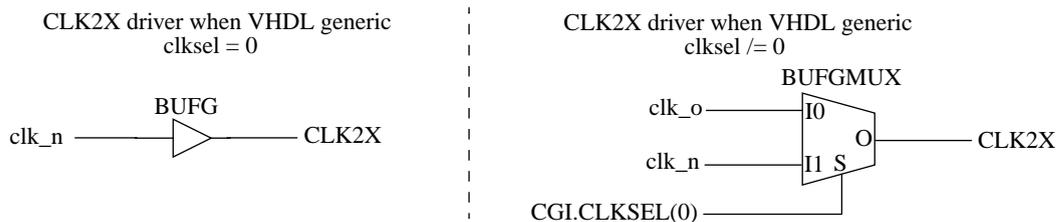
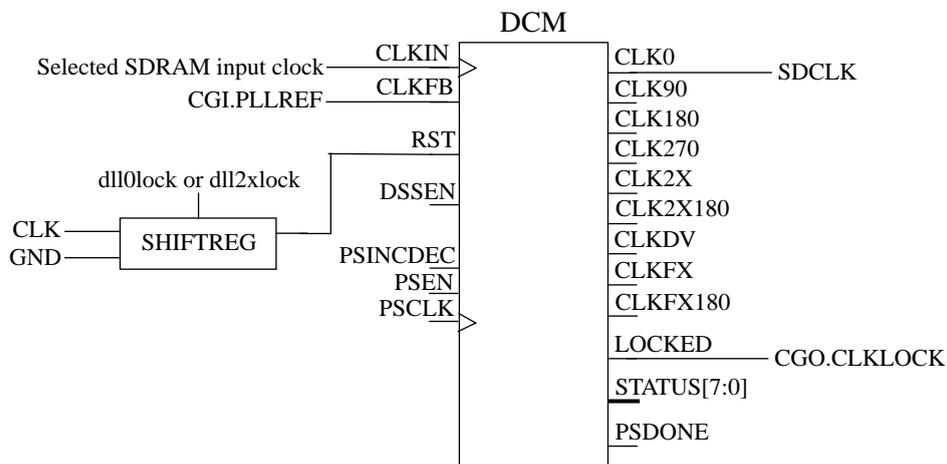

Figure 56. Spartan 3/e selection of CLK2X clock when VHDL generic *clk_{2xen}* is non-zero
Figure 59. Spartan 3/e generation of SDRAM clock
shift register connected to the CLK2X DCM’s RST input are set to ‘1’. When the dll0lock signal is asserted it will take four main clock cycles until the RST input is deasserted. Depending on the value of the *clk_{sel}* VHDL generic the core’s CLK2X output is either driven by a BUFG or a BUFGMUX. Figure 56 shows the two alternatives and how the CGI.CLKSEL(0) input is used to selected between the CLK0 and CLK2X output of the CLK2X DCM.
If the SDRAM clock is enabled, via the *sdramen* VHDL generic, and the clock generator is configured to use clock feedback the DCM shown in figure 59 is instantiated. This DCM has the same attributes as the CLK2X DCM. The input to the SDRAM DCM input clock is determined via the *clk2xen* VHDL generic. If the VHDL generic is set to 0 the input is the main CLK, if the generic is set to 1 the input is the *clk_p* out of the CLK2X DCM shown in figure 56. If the *clk2xen* VHDL generic is set to 2 the clock input to the SDRAM DCM depends on the *clkssel* VHDL generic. The input in this last case is the CLK2X output shown in figure 58.
If the SDRAM clock is disabled (*sdramen* VHDL generic set to 0) or the core has been configured not to use clock feedback (*noclockfb* VHDL generic set to 1) the driver of the core’s SDCLK output is determined by the value of the *clk2xen* VHDL generic. If the *clk2xen* VHDL generic is set to 2, the SDRAM clock output is the same as the CLK2X output shown in figure 56, in other words it also depends on the *clkssel* VHDL generic. If the *clk2xen* VHDL generic has any other value the SDCLK output is the same as the core’s CLK output.